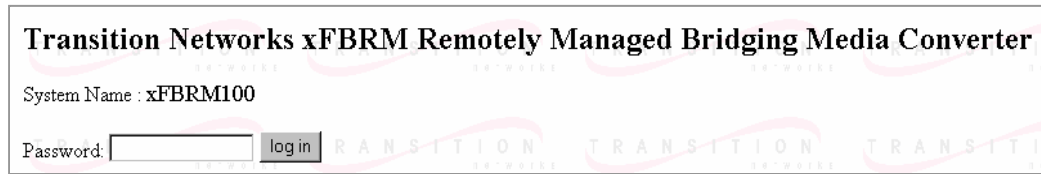

Figure 45: Login Screen
3.	Click the GO button to launch the password screen shown in Figure 45.